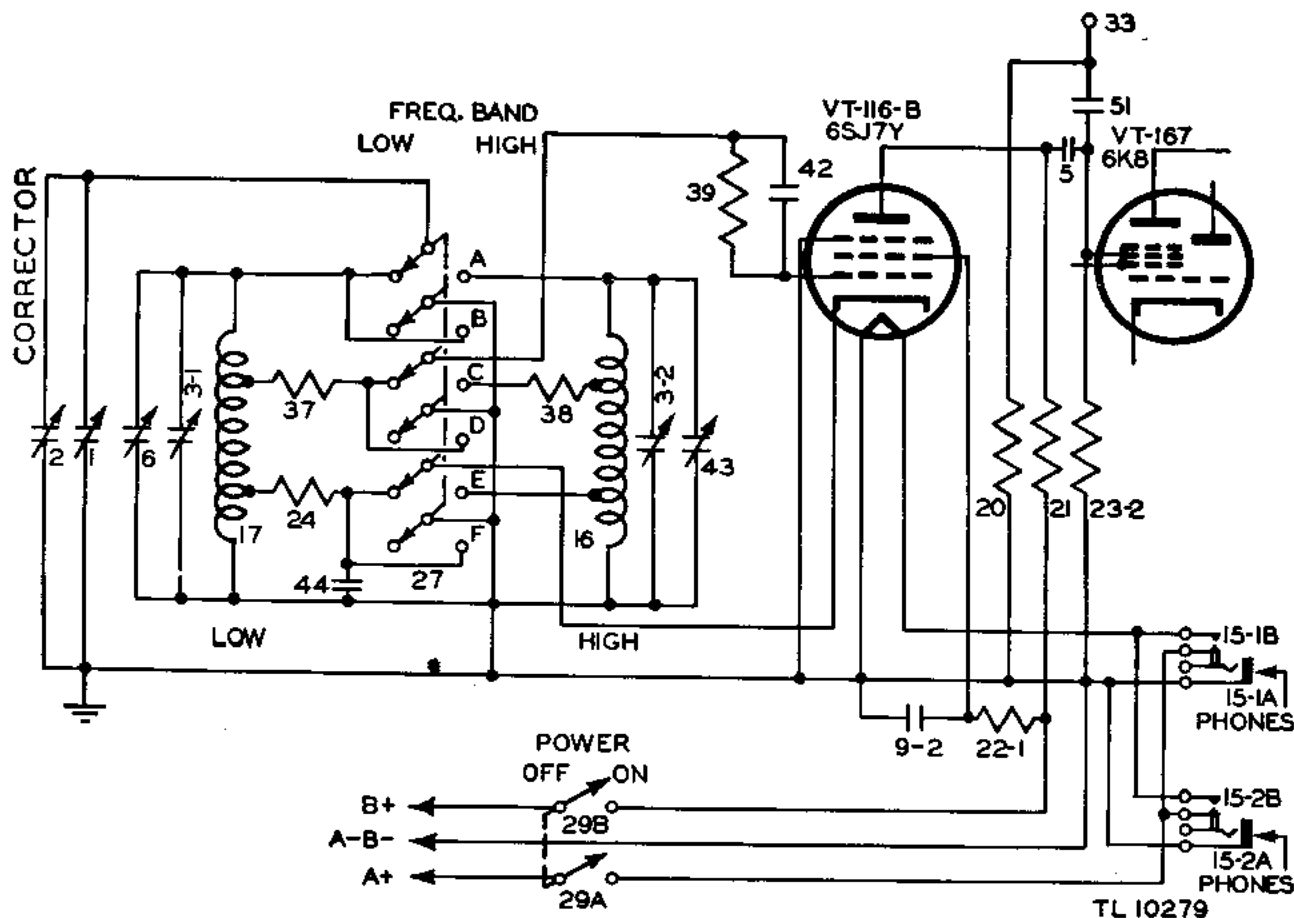

Figure 76. Frequency Meter BC-221-AH, functional diagram, variable frequency oscillator circuit.
(2) In the BC-221-AH, the band selector switch 27 is a double-throw, six-pole switch. (See fig. 76.)
(3) All contacts of these switches are mounted on ceramic plates. In order to minimize abnormal capacitive effects, all contacts are made as small as possible and are of the self-aligning, self-wiping type. Each switch has a heavy detent, which accurately locates the rotor plate in either one of its two positions.